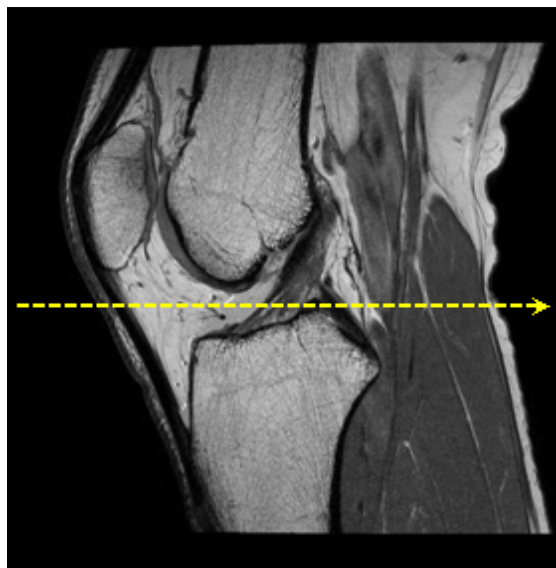

Figure 5
- Find the true Axial plane or axis of the knee joint as shown in Figure 5 by the yellow dash line.